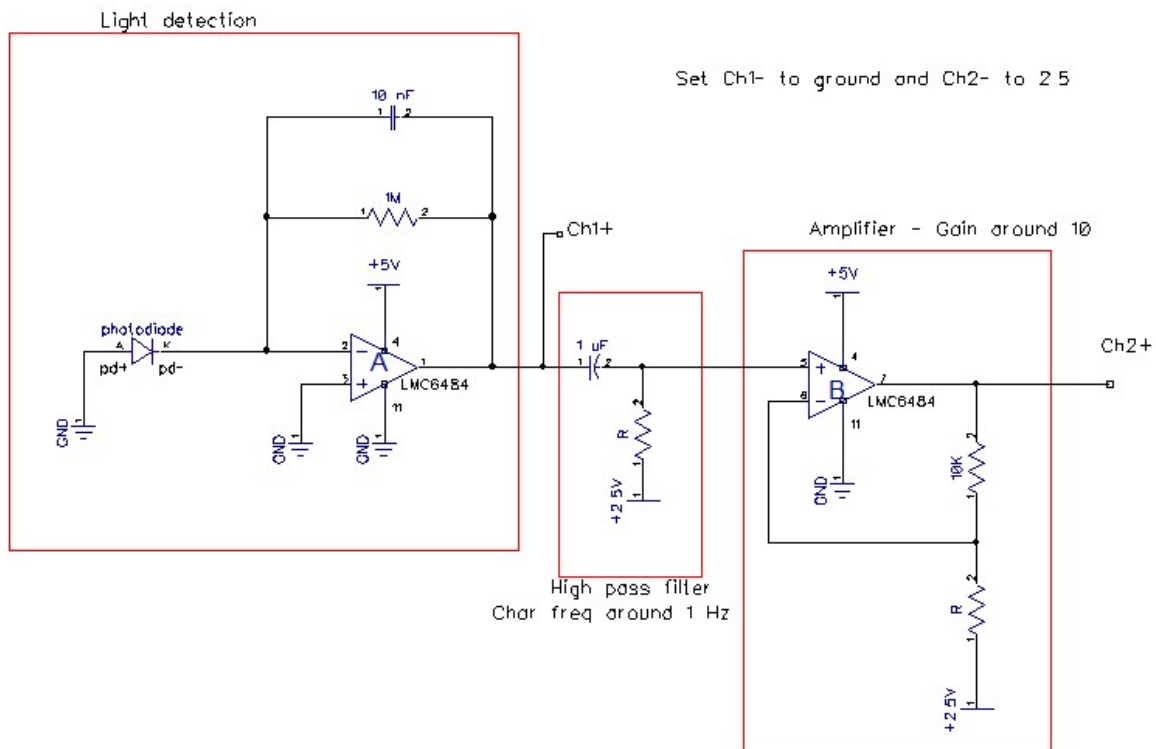
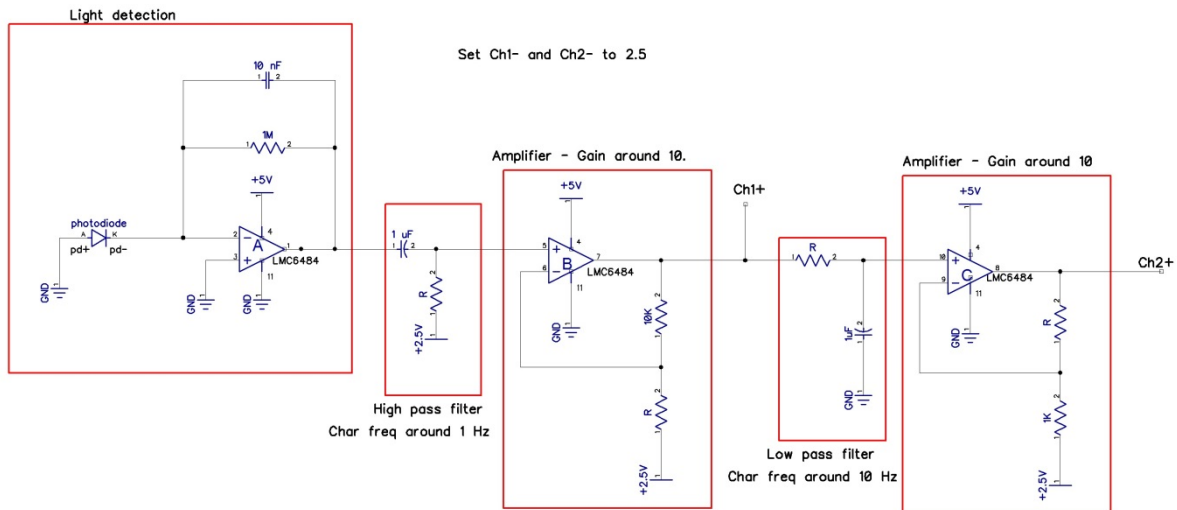

Figure 2: Pulse detection – step 1. High pass filter and amplifier.
Figure 3: Circuit to measure light intensity through your finger.
Last week measured your pulse by sensing the electrical activity of your heart. This week we will repeat this measurement, but we will sense your pulse by measuring the light intensity through your finger. Your blood changes color (slightly) based on levels of oxygenation, and thus the intensity of light that passes through your finger fluctuates with your pulse. The first part of the pulse measurement circuit is shown in Figure 2.
Once you are convinced that the first few functions are working, complete the circuit as shown in Figure 3. The complete circuit will add a low pass filter and an additional amplifier. Note that we are again specifying function and keeping some resistor values unknown. As before, a range of resistor values that get near the targeted cutoff and gain should work pretty well. Experiment a little and see what works best for you. Again, to test the circuit put your finger lightly on the photodiode and at the final output you should more clearly be able to see your pulse.
- 1) Your final circuit schematic, i.e. a copy of figure 3 but with your final values selected. You can hand sketch it. Include the resistor values on the schematic. Include the actual cutoff frequencies and amplifier gains as part of the block diagram (as in Figure 3). You can sketch the circuit, but it should be neat enough that someone else in the class could build the circuit off your drawing.
- 4) At least two plots of your circuit working at different points in the development- i.e. after the system in Figure 2 and Figure 3 are complete. Provide some short interpretation as to why the signal looks different at different points in the circuit.